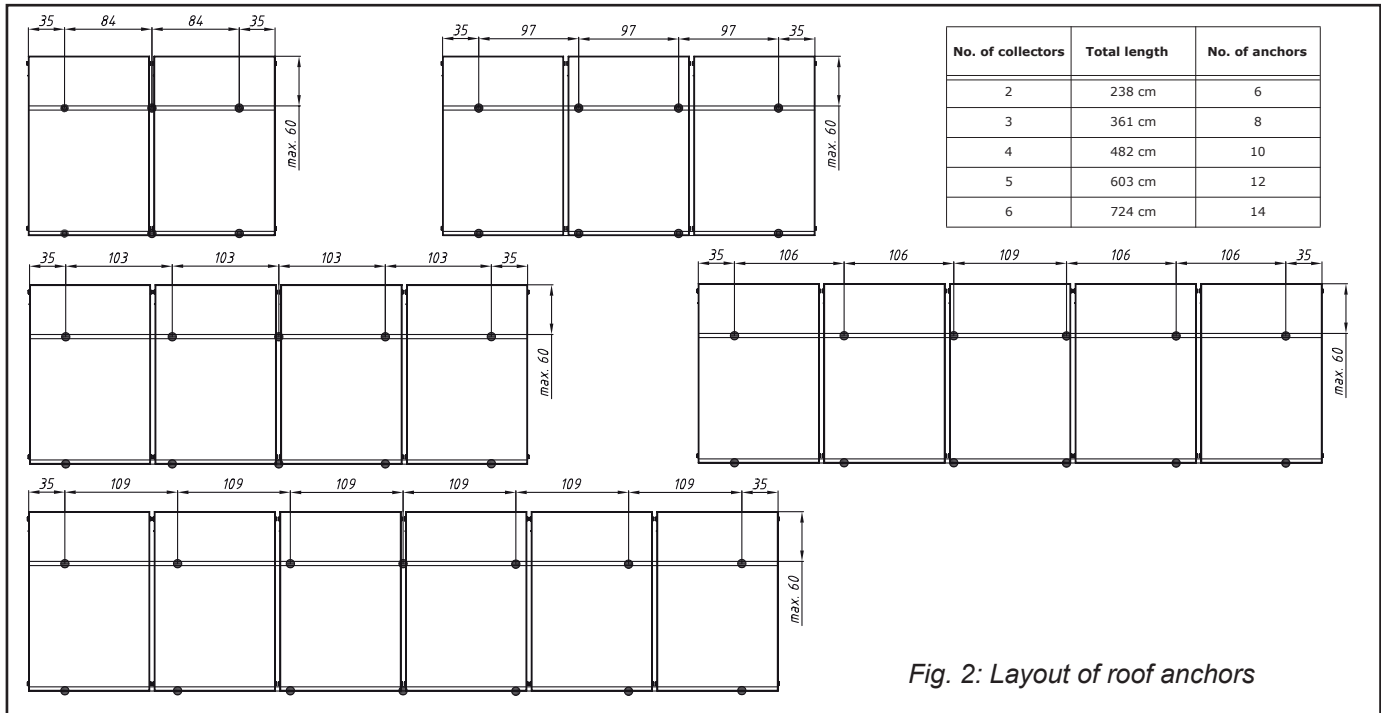

Fig. 2: Layout of roof anchors
- Fit the auxiliary boards to battens so that the distribution of anchors resembles the positions in Fig. 2. At the same time screw the boards so high that the roof
- Hang the roof anchors onto the auxiliary board respecting their distribution shown in Fig. 2.
- Remove roofing in places where anchors shall be fitted (Fig. 5). The distance “a” between anchors is defined in Fig. 2.
- Depending on the number of collectors, measure and calculate the positions for fitting roof anchors (Fig. 2). Such places shall be selected for mounting where anchors can be fastened sufficiently into the roof frame (rafter or similar).